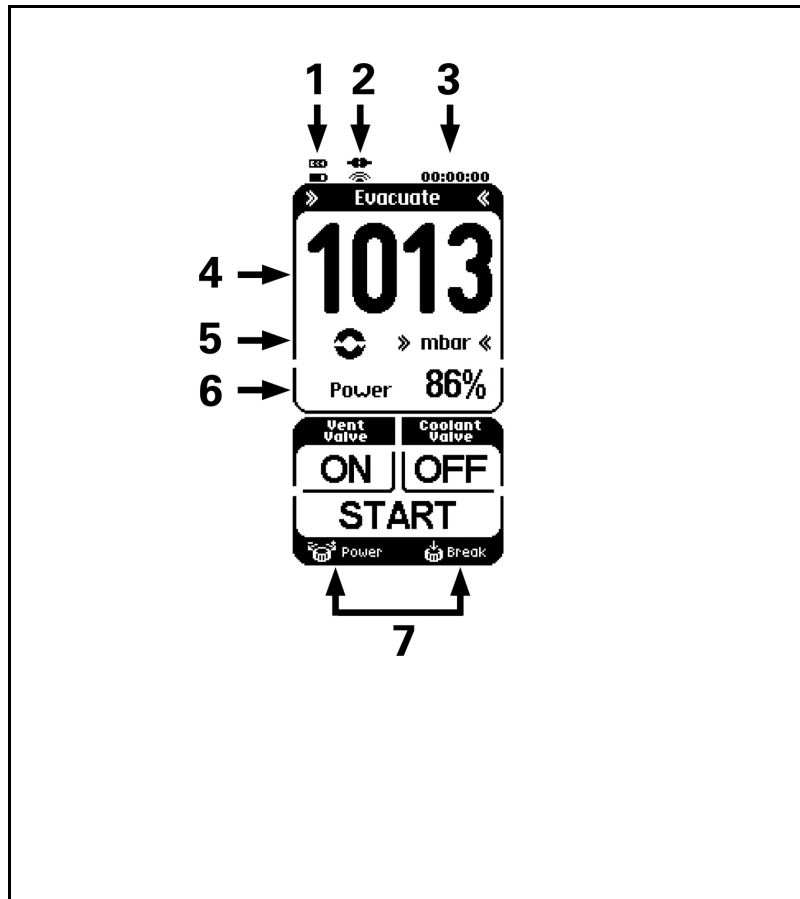
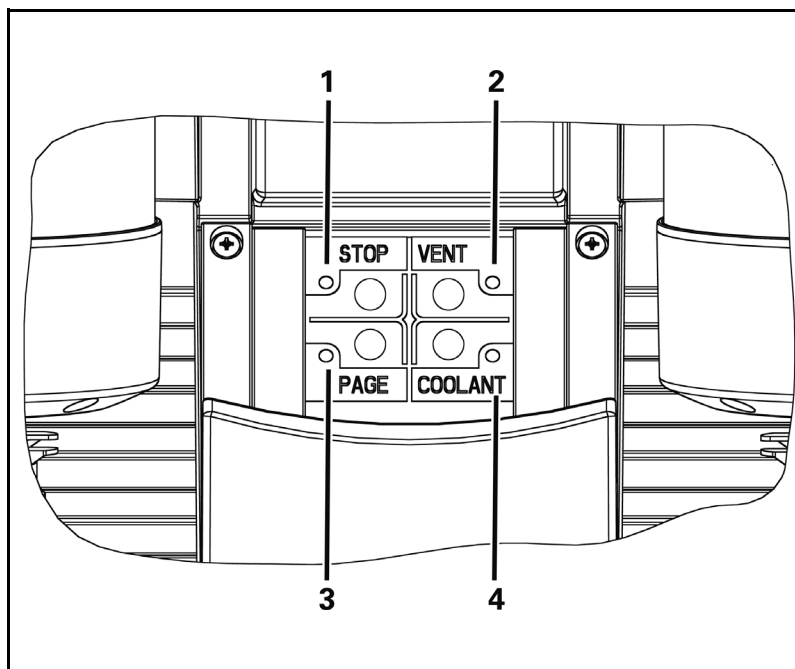

Fig. 8: Display on the touchscreen
Fig. 14: Buttons on vacuum pump system
- Display of the most important process variables (Fig. 8, page 24).
When you press the circle symbol for the active process (Fig. 8/5, page 24) in the hand terminal display, the LED next to the page button (Fig. 14, page 30) on the vacuum pump system will blink.
The following actions can be taken directly on the vacuum pump system when the hand terminal is removed (Fig. 14):